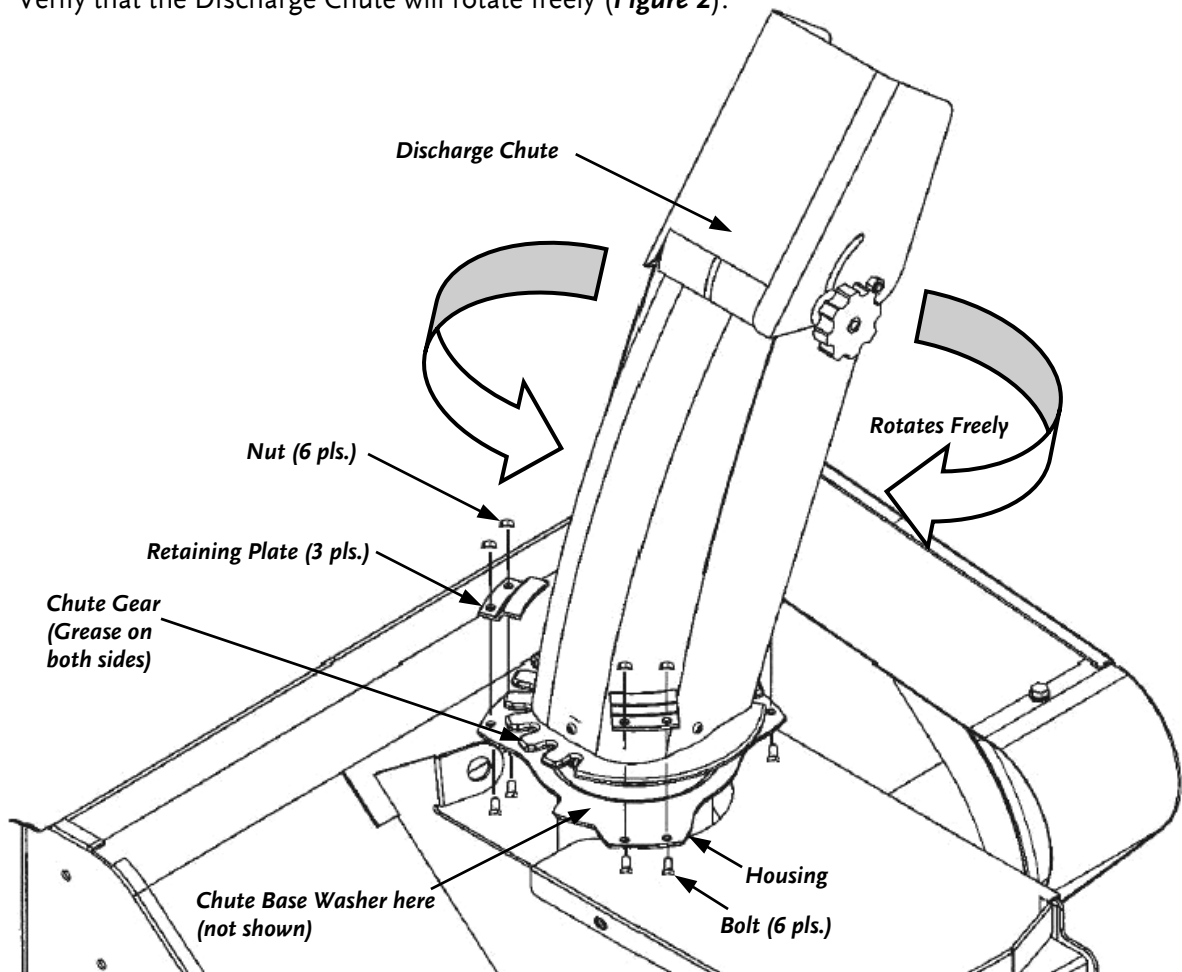

Figure 2
2. Apply a thin film of General Purpose Petroleum Based Grease to both sides (top and bottom) of the Chute Gear (**Figure 2**).
3. Then place the Discharge Chute, with the Chute Base Washer around the Discharge Hole under the Chute Base, on top of the DR SNOW THROWER ATTACHMENT Housing (**Figure 2**).
4. Align the two (2) holes in the Retaining Plate with the holes in the top of the Housing and secure in place using two (2) 1/4" x 1/2" Bolts and Flange Nuts (**Figure 2**).
5. Repeat Step 3 for the remaining two (2) Retaining Plates (**Figure 2**).
6. Tighten the Bolts and Nuts using two (2) 7/16" Wrenches.
7. Verify that the Discharge Chute will rotate freely (**Figure 2**).